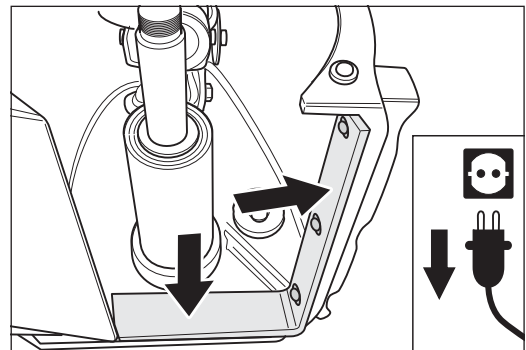

Fig. 84 The sealing felt must not demonstrate any signs of damage, otherwise replace!
- Ensure that the sealing felt is not worn or damaged (Fig. 84)!